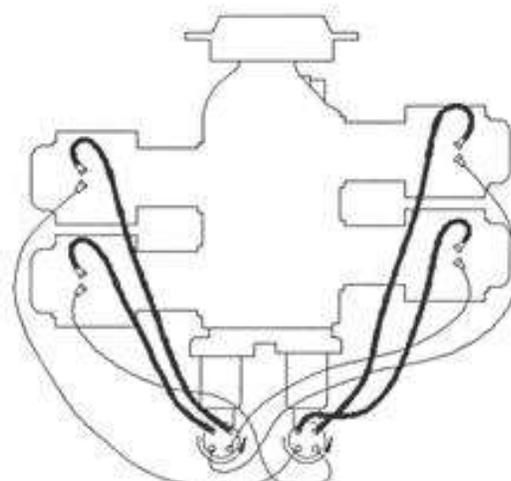

Figure 6
- (1) Improper wire repairs or splices
- (2) Heat damaged or burnt wire
- (3) Vibration damage or chafing
- (4) Cracked insulation
- (5) Arcing
- (6) Insulation delamination
- E. Figure 6 shows an example of ignition harness routing. Your harness routing configuration could be different due to the engine installation arrangement.